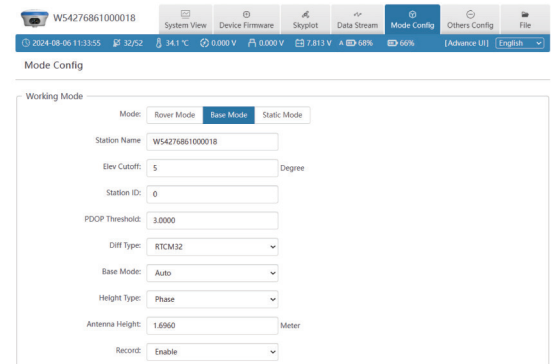

Figure 2.5-2
2. Base Mode: You can configure parameters (Station Name, Elev Cutoff, Station ID, PDOP Threshold, Diff Type, Base Mode, Height Type, Antenna Height, Record), as shown in Figure 2.5-2: